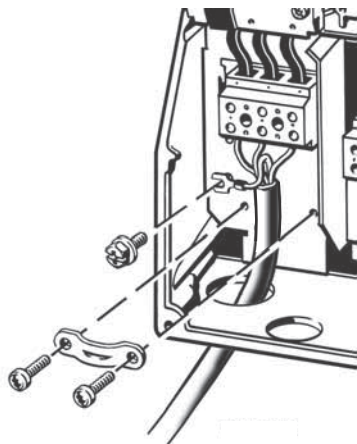

Fig. 14 Mains connection, B1 and B2
1. Connect the ground conductor to terminal 95 (PE), see fig. 14.